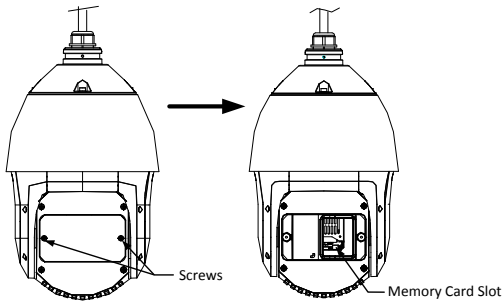

Figure 2-8 Memory Card Slot
5. Refer to Figure 2-8 for memory card slot of 5xx (IR) series speed dome.